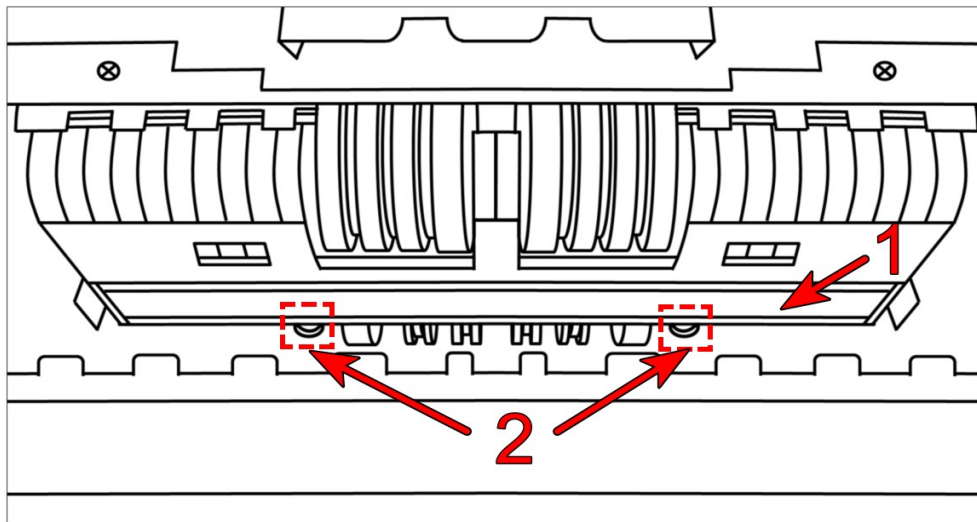

Figure 98
2) As shown in Figure 98 below, wipe the upper CIS of Mark 1 from one direction with a dust-free cloth, and then clean the infrared emission of Mark 2 with a nylon brush.